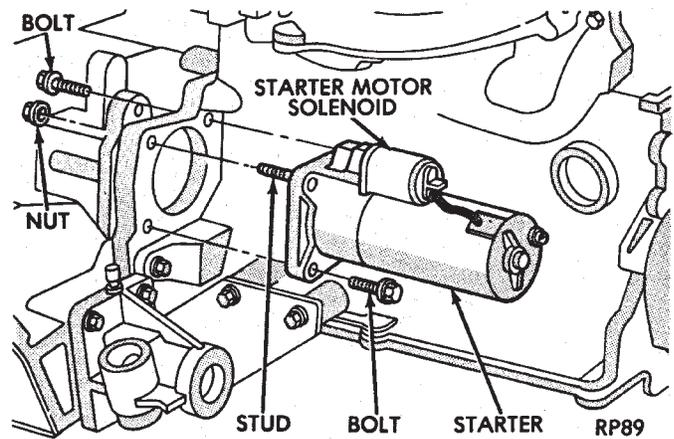

Fig. 3 Bosch Starter—2.2L/2.5L Engine
(4) Remove two bolts and one nut attaching starter to engine (Fig. 3).
(5) Remove starter/starter solenoid assembly from engine. Position the starter to gain access to the wiring connectors.
(6) Disconnect the positive battery cable and wiring at the starter.
(7) Remove the starter from vehicle.
(8) For installation, reverse above procedures. Clean corrosion/dirt from the cable and wire terminals before installing wiring to the solenoid.